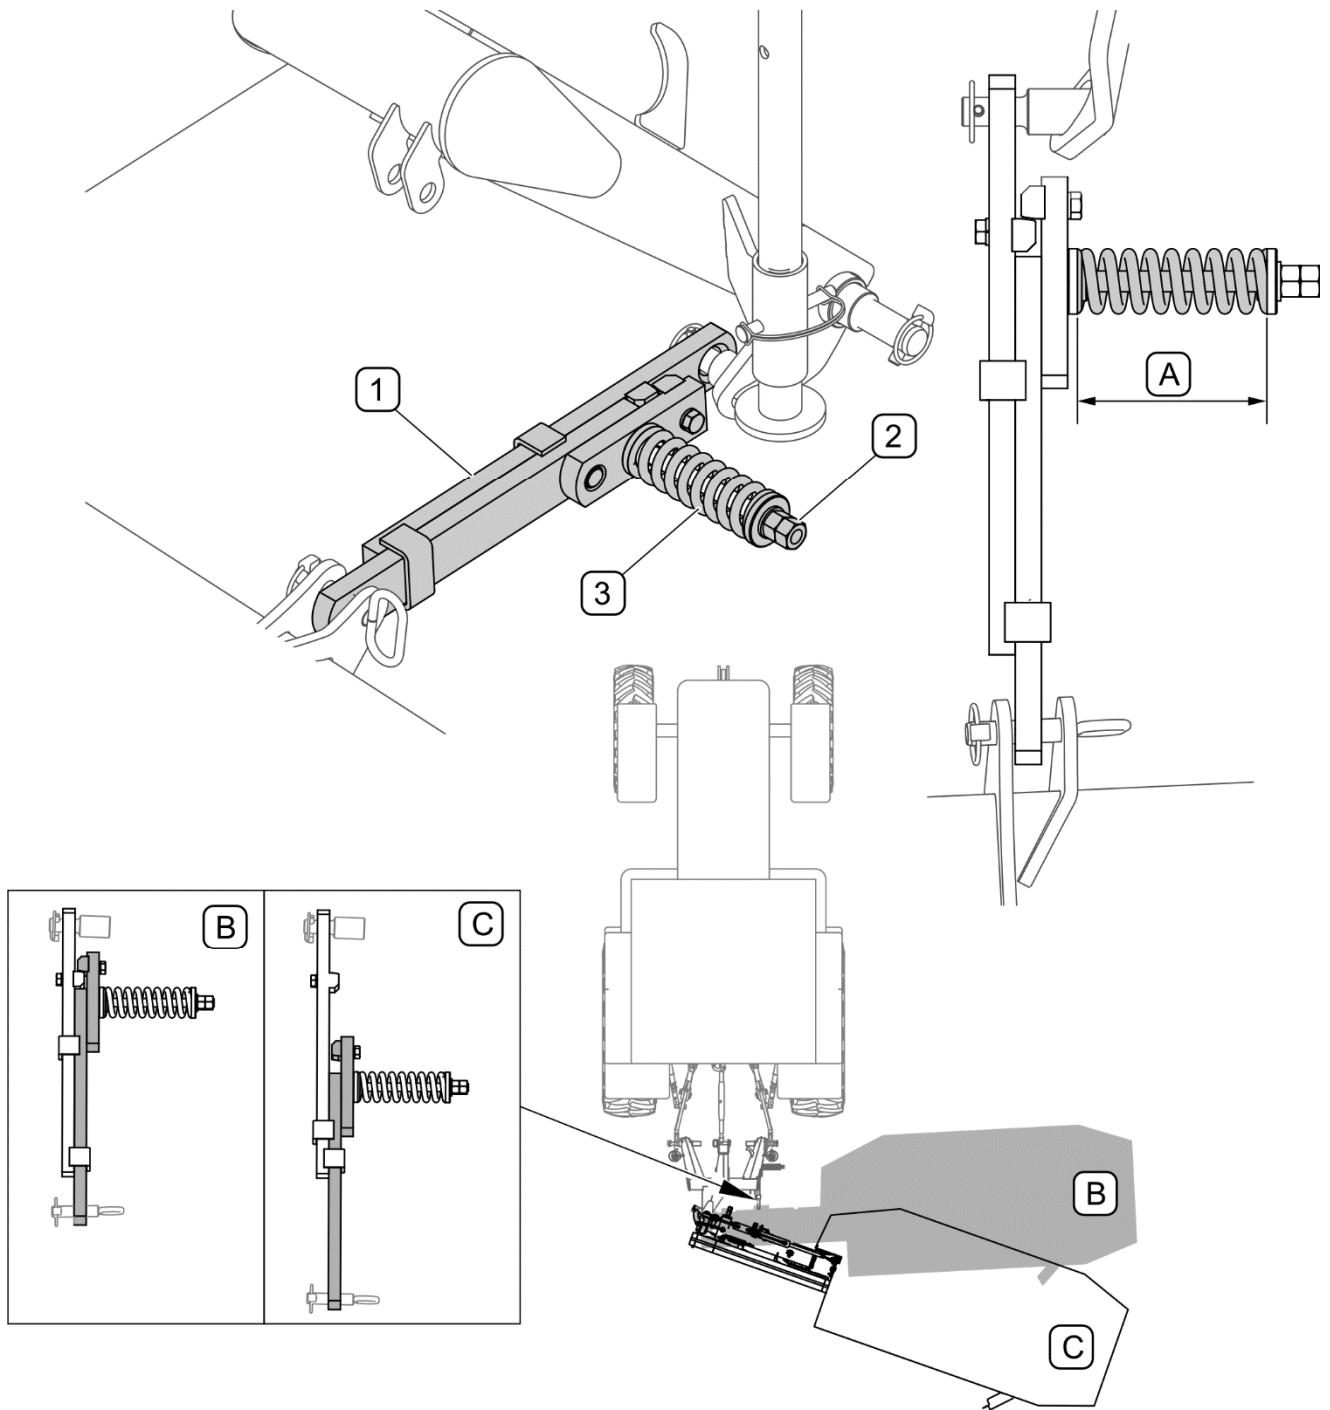

FIGURE 4.14 Fuse
The PDK220 mower is equipped with a safety device, which protects the machine against damage resulting from collision with obstacles (FIGURE 4.14). When driving over an obstacle, the lifting arm with the cutting unit tilts backwards (C). In such a case stop tractor and disconnect drive and then reverse until the safety device blocks itself in setting (B).
The safety device (FIGURE 4.14) is factory set such that the length of the compressed spring (3) is A=132 mm. If the safety device operates too frequently without cause, you may use the nut (2) to reduce size (A) of the spring by 1 - 2 mm.